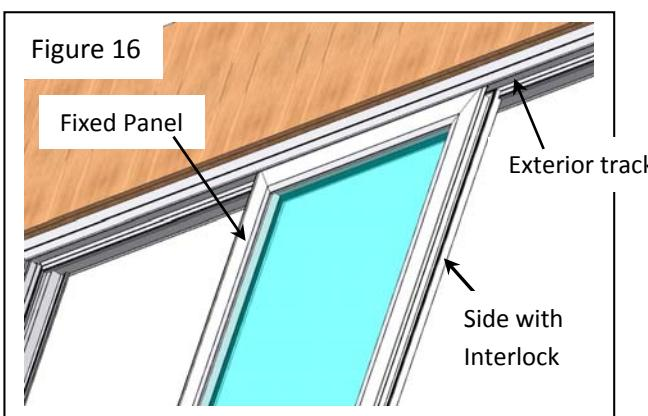
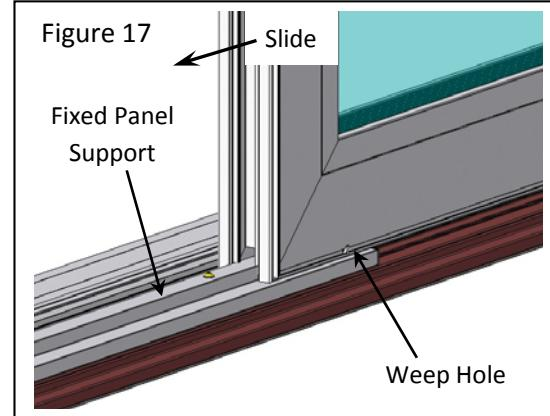
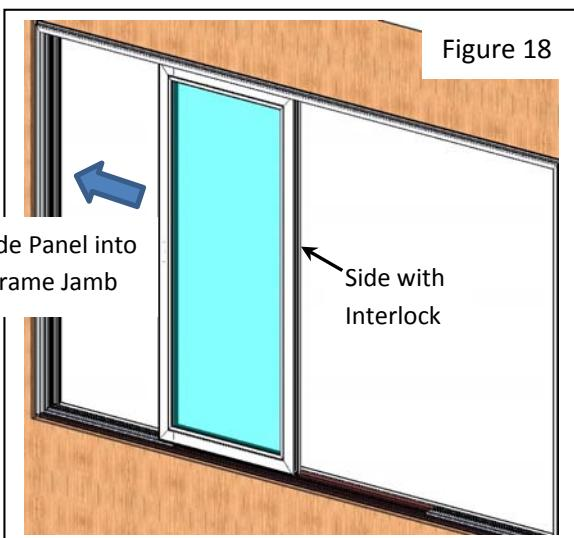
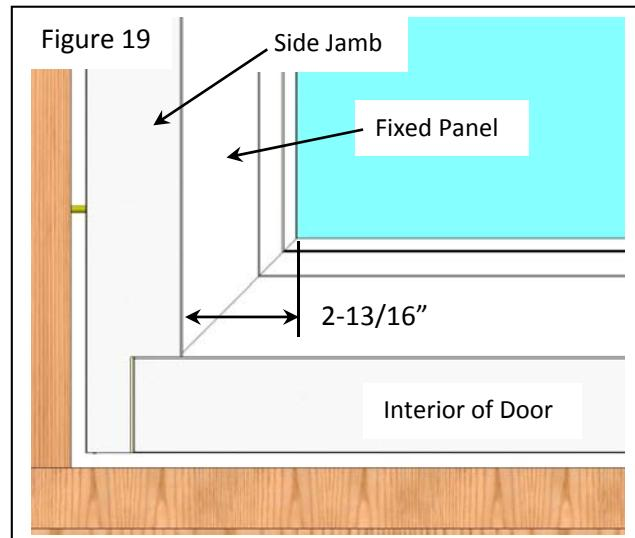

Figure 16
Figure 17
Figure 18
Figure 19
13) Distinguish the fixed panels from the operating panels. The fixed panels do not have rollers on the bottom or holes for attaching handles. There are left and right fixed panels. Determine one from the other by placing the weep holes at the bottom and to the exterior. The side of the panel with the interlock needs to be toward the center of the door. To install the first fixed panel, start with the panel placed between the fixed panel supports, and lift the top into the exterior track in the head (Fig. 16). Swing the bottom of the panel in and place it onto the fixed panel support as shown (Fig. 17). Slide panel on fixed panel support and into jamb (Fig. 18), making sure it is fully seated in the jamb. The exposed vinyl on the panel should measure 2-13/16" from the side jamb leg when the panel is fully seated (Fig. 19).